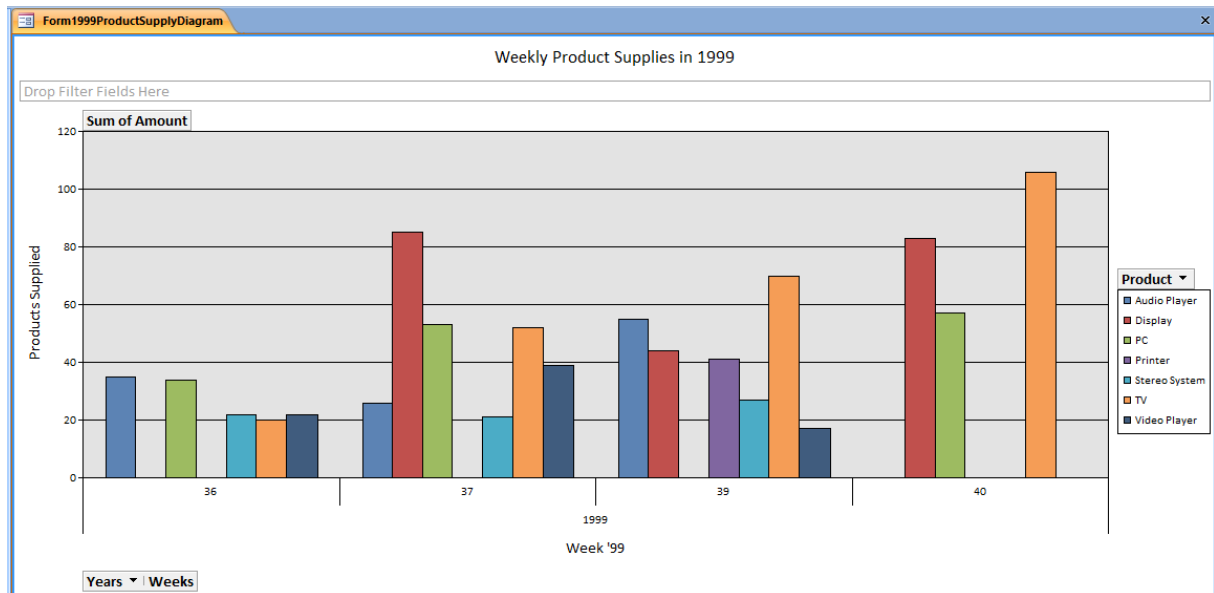

Figure 6.3
2. Repeat the same actions to change Y axis caption to “Products Supplied” (figure 6.3).
4. Open property sheet for the appeared title, open “Format” tab and type “Weekly Product Supplies in 1999” (figure 6.3).